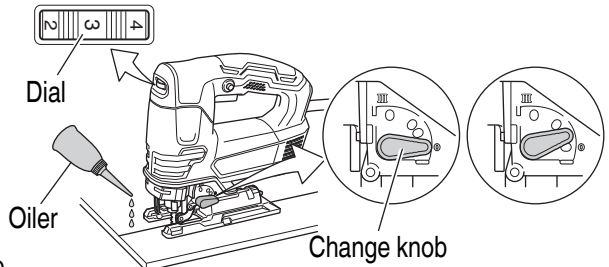

Fig. 14
4. Cutting metallic materials (**Fig. 14**)